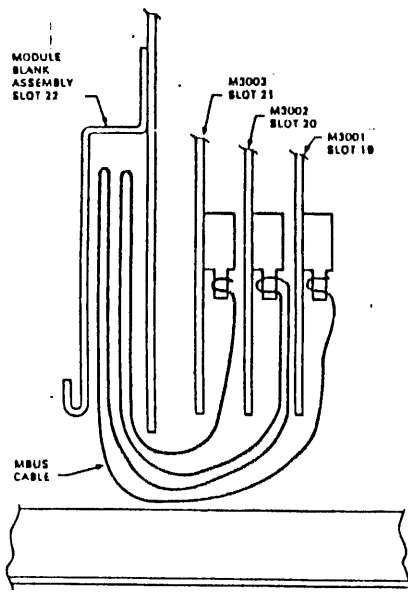

Figure 3-3. Mbus Cable Interboard Connection, Top View
1. Connect Mbus cable, DEC part number 7019270-1J. Be sure to orient the cable so that the flat wire comes out of the cable header away from the board, as shown in Figure 3-3.
3. Connect the Mbus cable to the M3002 Port Microprocessor Module as shown in Figure 3-3.
4. Insert the Module M3002 in slot 20 to the left of the installed M3001 as shown in Figure 3-3.
5. Connect the Mbus cable to the M3003 module as shown in Figure 3-3.
9. Fold the Mbus cable into the Module Blank Assembly as shown in Figure 3-3.
14. Type MR (CR) with KLDCP loaded and running, then type FX1 (CR) in response to the command prompt, as shown below:
- > MR (CR)
- > FX1 (CR)